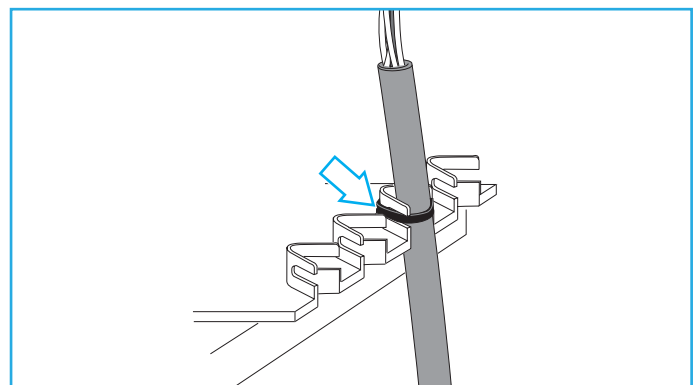

Figure 4.
7.1.6 Attach cable end to the FOSC closure work stand using a tie wrap as shown. (Figure 4)
7.3.5 Attach the cable to the FOSC closure work stand with a tie wrap. (See Figure 4)